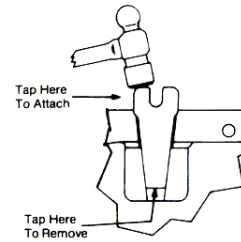

Figure 2 – Mounting feet
2. Install detachable mounting feet while enclosure is on the floor or work bench (see Figure 2).
- Insert four (4) wedge shaped mounting feet into dovetail slots in enclosure body.